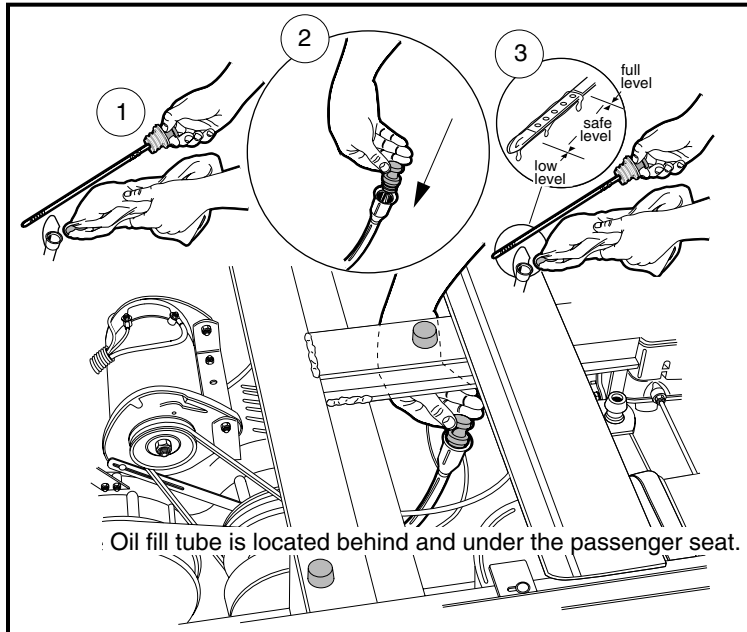

Figure 17 Oil Level
1. Remove the oil level dipstick from the oil filler tube and wipe oil from stick (**Figure 17, Page 29**). See following **CAUTION**.